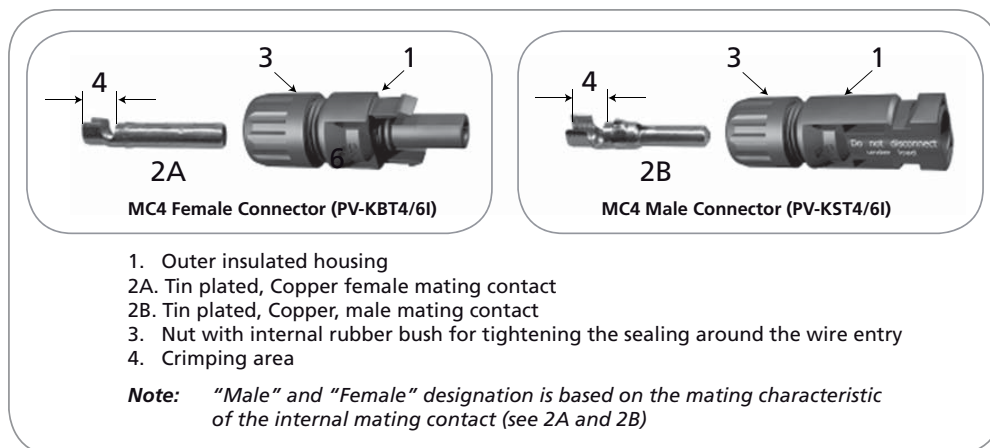
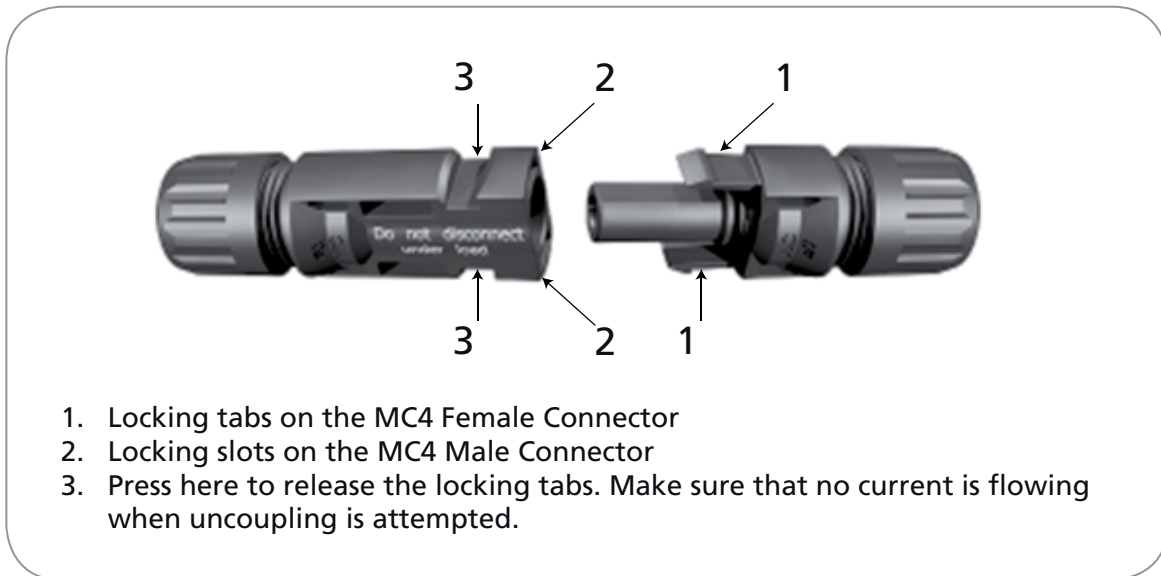

Fig. 1. MC4 Male and Female Connectors
Fig. 2. Snap-in Locking System
MC4 Multi-Contact Connectors (Fig. 1)
Construction of MC4 Connectors (See Fig. 1)
The Male and Female MC4 Connectors consist of the following components (See Fig. 1).
- Outer insulated housing with locking arrangement (1 of Fig. 1)
- Tin-plated Copper metallic male & female mating contacts (2A and 2B of Fig. 1). The wire is placed in the crimping area (4 of Fig 1) and crimped with a special crimping tool
- Nut & internal rubber bush (3 of Fig. 1). When the nut is tightened, the internal rubber bush is compressed around the outer jacket of the cable and thus, provides water-tight sealing.
MC4 Connector – Locking Arrangement (Fig. 2)
Two locking tabs (1 of Fig. 2) are provided on the MC4 Female Connector. Two corresponding locking slots (2 of Fig. 2) are provided on the MC4 Male Connector. When the two connectors are coupled, the locking tabs slide into the locking slots and secure.
Installation procedure (See Fig. 1 and Fig. 2)
2. Insert the bare conductor into the crimping area (4 of Fig. 1) of the metallic mating contact and crimp using a special purpose crimping tool. The end may be soldered if the crimping tool is not available. Take care that the solder does not flow beyond the crimp area.
4. Tighten nut (3 of Fig.1) so that the rubber bush is compressed around the wire entry to ensure proper sealing.